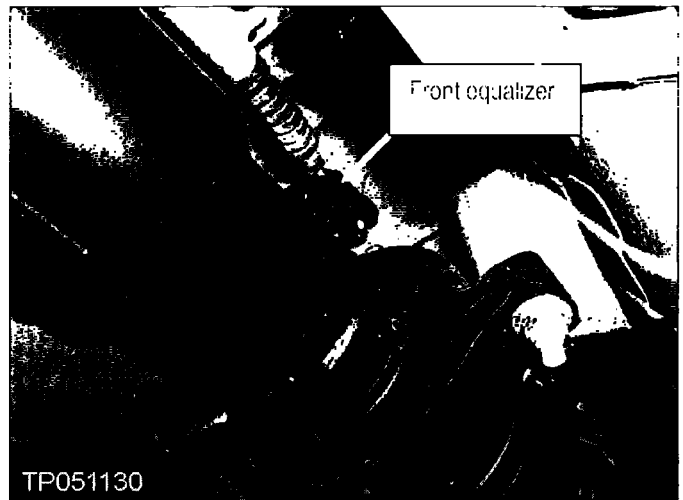

Figure 53
19. Remove the parking brake cables from the front equalizer (see Figure 53).